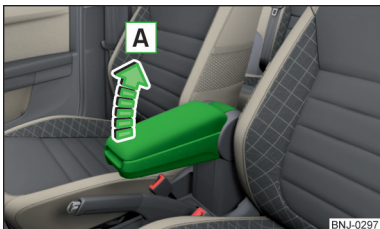

Fig. 69
- ▶ To **adjust the height**, lift the armrest in the direction of the arrow **A** into one of the locking positions » Fig. 69.